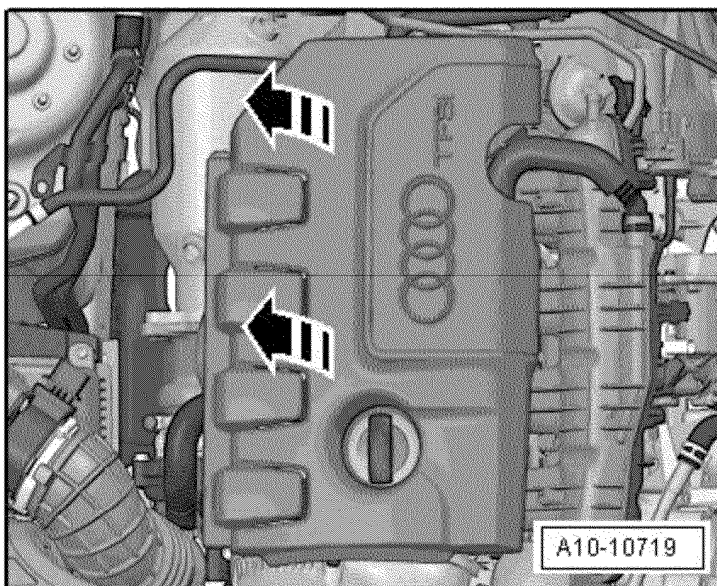

Figure 1. Engine cover.
1. Pull off engine cover panel (Figure 1, arrows).